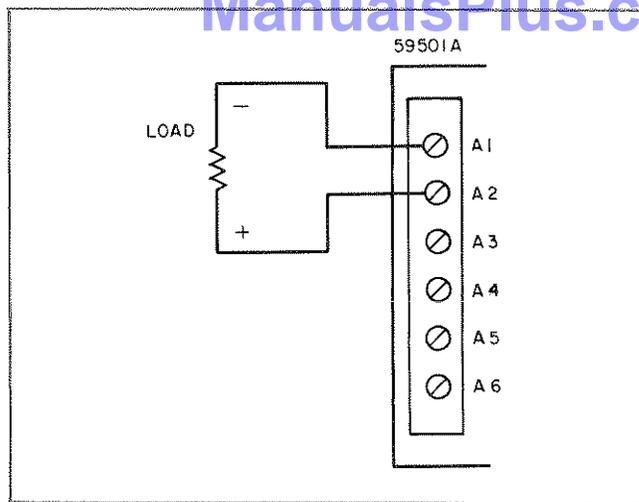

Figure 2. Connecting the 59501A as a Low Level Voltage Source.
- a. Wire load to 59501A as illustrated in Figure 2.